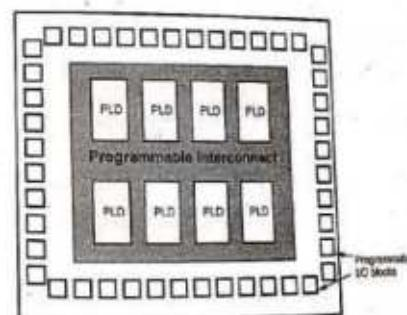

Fig. 7.16.1 General architecture of CPLD
• The Complex Programmable Logic Devices (CPLDs) are introduced to solve the above mentioned difficulty of SPLDs. A typical CPLD is merely a collection of multiple PLDs and an interconnection structure, all on the same chip, as shown in the Fig. 7.16.1.